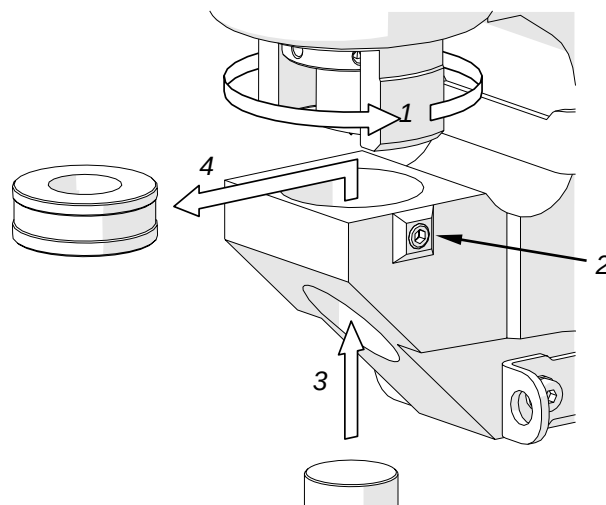

Fig. 10. Dismounting the die
Set the power ON/OFF switch to the position ‘O’. To dismount the die, retract the restrainer fully (1, Fig. 10) and use the 4 mm hex wrench to loosen the set screw 2. Then, use the drift (3) and remove the die (4).